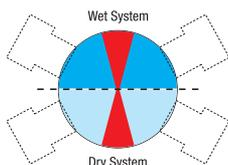

Fig. 1
AGF recommends positioning the plug at the top of the clock between 1 and 3 or 9 and 11, but not directly vertical at 12 (see Fig. 1).
AGF recommends positioning the plug at the bottom of the clock between 3 and 5 or 7 and 9, but not directly vertical at 6 (see Fig. 1).
1. After choosing an installation location plumb the 10" pipe into the system using the appropriately sized groove couplings. Before tightening couplings, orient the monitor's plug to desired position (see Fig. 1).
1. After choosing an installation location and plug orientation (see Fig. 1) refer to the table below to determine the correct size for the hole. Then, cut the hole on the centerline of the pipe.